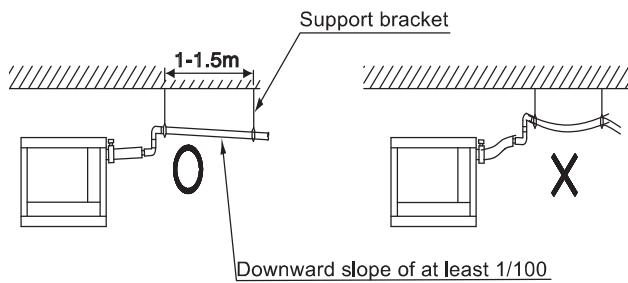

Fig. 10
- Install the drain piping as short as possible with downward inclination of 1/100 or more and such that air may not stagnate. (Refer to Fig.10)
- Install supports at a distance of 1 to 1.5 m so that the piping may not deflect. (Refer Fig.10)
- Make sure to use the attached drain hose (2) and the metal clamp (1).